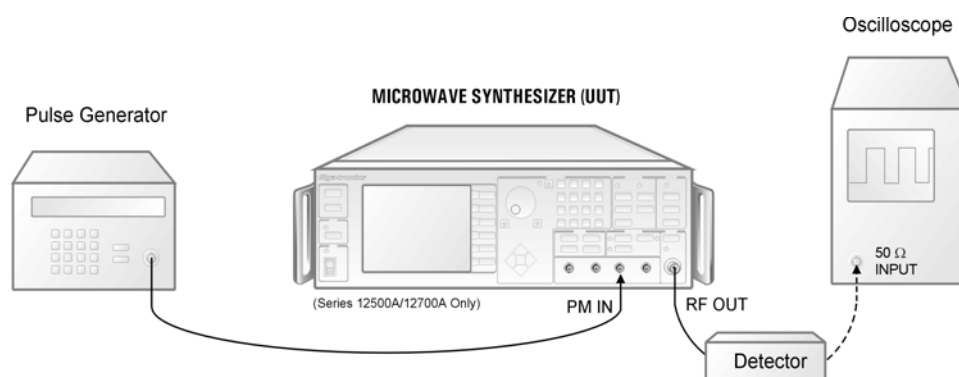

Figure 2-9: Pulse Modulation Rise/Fall Time Test
1. Connect the equipment as shown in Figure 2-9. The cable from the detector to the oscilloscope should be kept as short as possible.